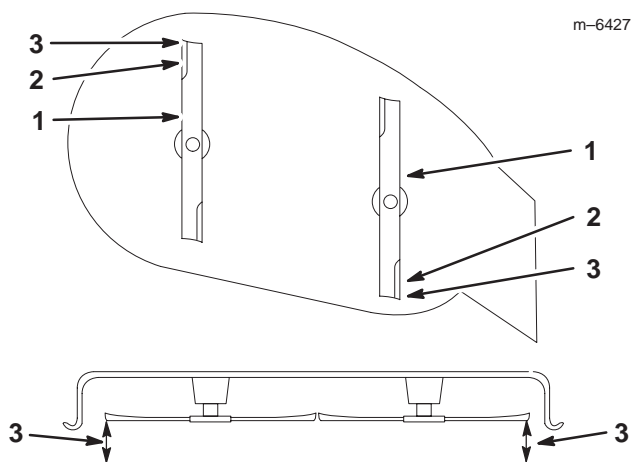

Figure 42
8. Set the height-of-cut at position **D** [3 inch (76 mm)] and carefully rotate the blades so they are facing front to rear (Fig. 42).
9. Measure from the tip of the front blade to the flat surface and the tip of the rear blade to the flat surface (Fig. 42). If the front blade tip is not 1/16–5/16 inch (1.6–7.9 mm) lower than the rear blade tip, adjust the front locknuts.